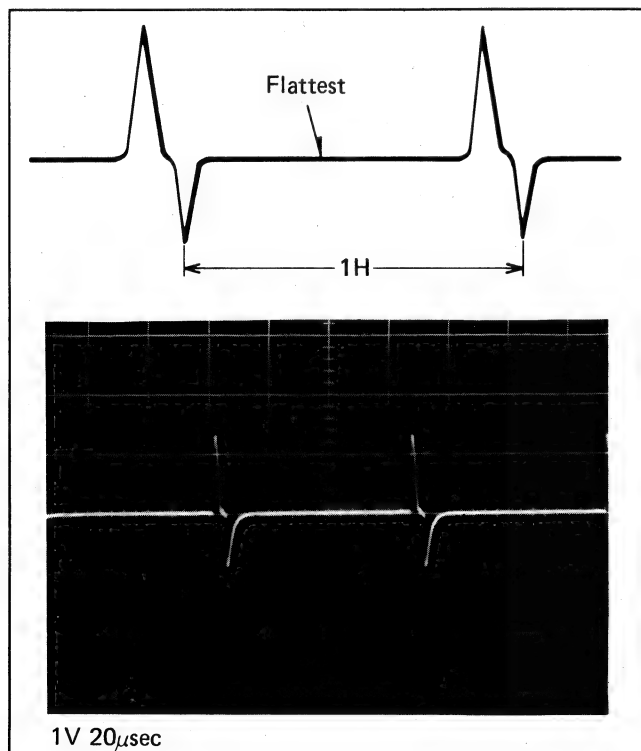

Fig. 1
- c. Adjust the horizontal sawtooth control BR602-1 and the horizontal parabola control BR602-2 so that the signal waveform is flattest during the horizontal period as shown in Fig. 1.